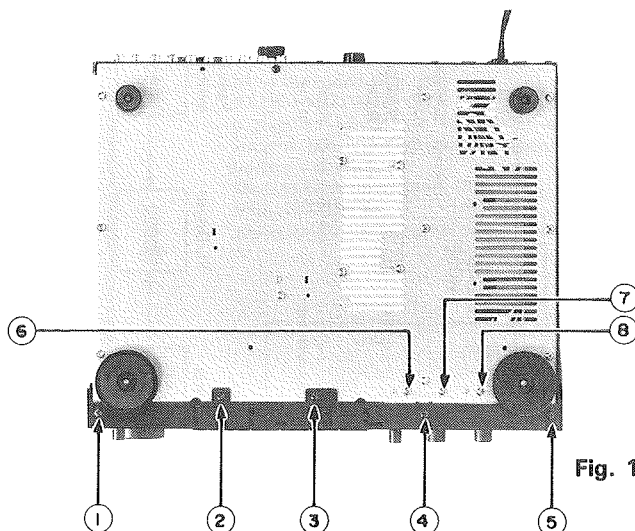

Fig. 1
- 2.Remove five screws ① through ⑤ securing the front panel and three screws ⑥ through ⑧ securing from the bottom plate. (See fig.1.)